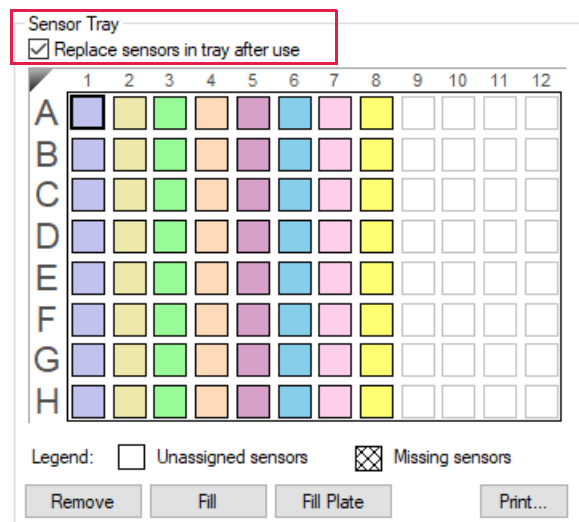

Figure 6-33: Replace Sensors in Tray After Use Check Box
5. Optional for the Octet[®] RED96 and the Octet[®] RED96e instrument only: After an assay is completed, the biosensors can be returned to the biosensor tray or ejected through the biosensor chute to an appropriate waste container. To return the biosensors to the tray, click the **Replace sensors in tray after use** check box (see Figure 6-33).